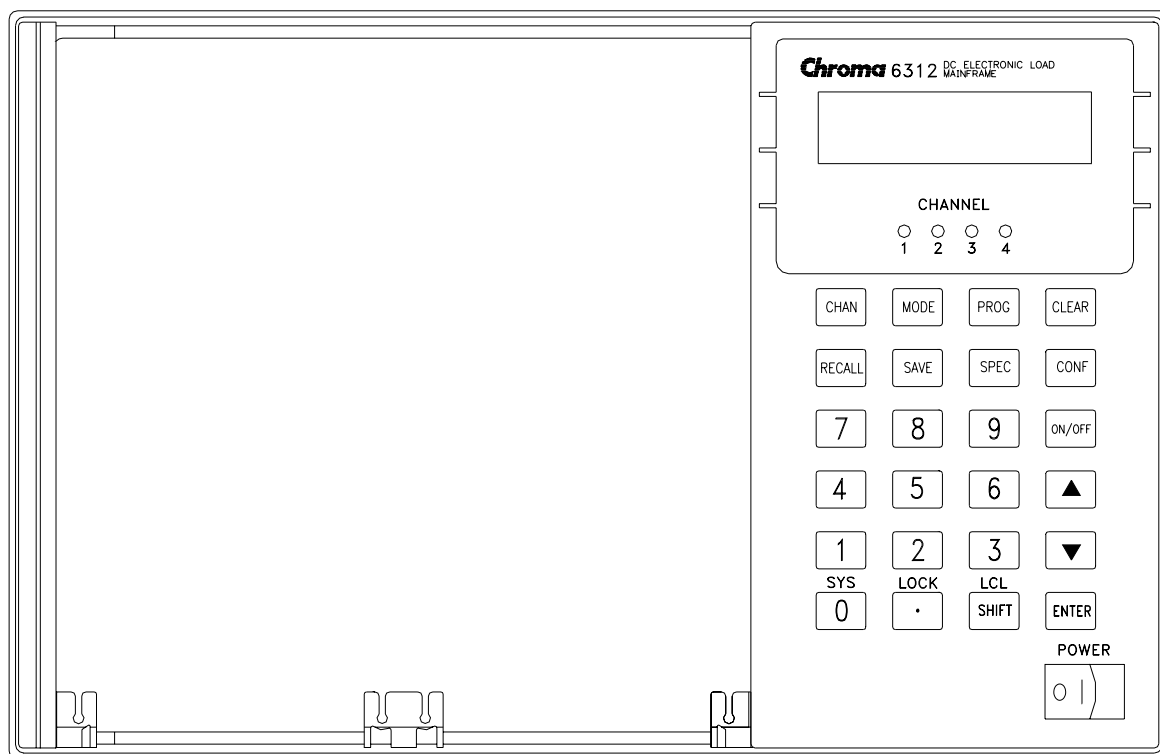

Figure 3-1 The Front Panel of Mainframe 6312
The front panel of Mainframe includes a 16 × 2 character LCD display, 8 (4) channel indicators, and keypads. All parameters of Load are set through Mainframe. The LCD display also shows which function is being performed when you use the keypads. Three of the keys perform two functions. The alternative function is labeled in blue above the key. It is selected by pressing the blue **SHIFT** key and the function key simultaneously. Figure 3-1 shows the front panel of Mainframe 6312.